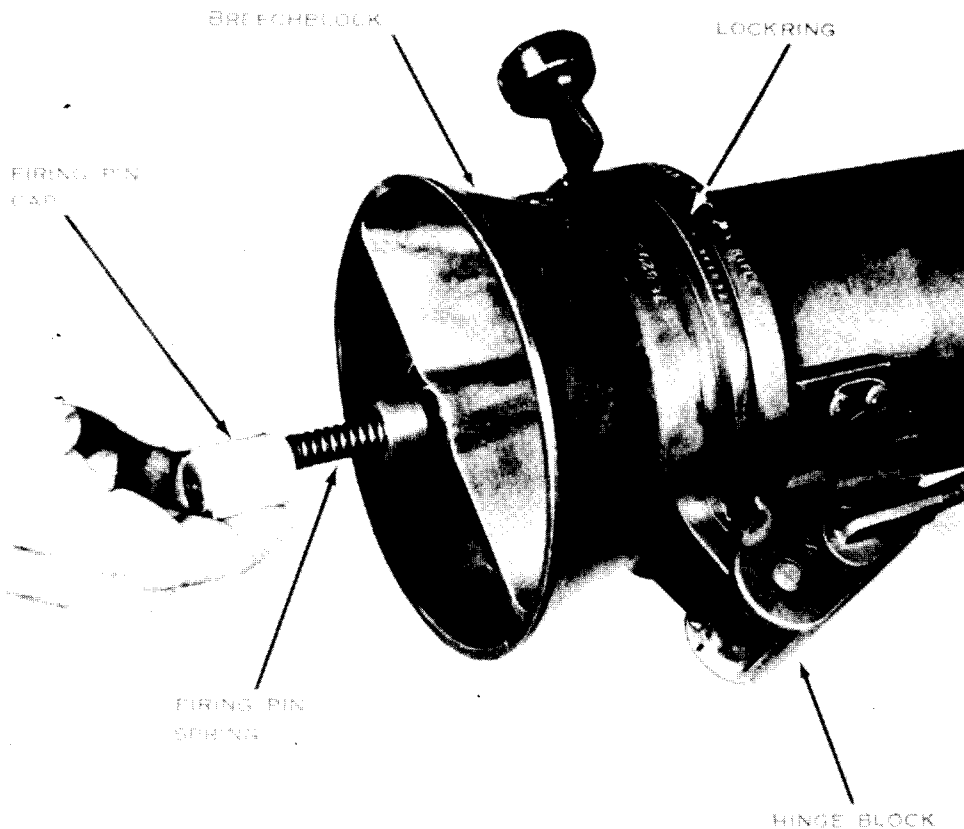

Figure 7. Removing and installing the firing pin cap and firing pin spring.
- (b) With the breechblock in the closed and locked position unscrew the firing pin cap (1, fig. 6) and remove it and the firing pin spring (2, fig. 6 and fig. 7).